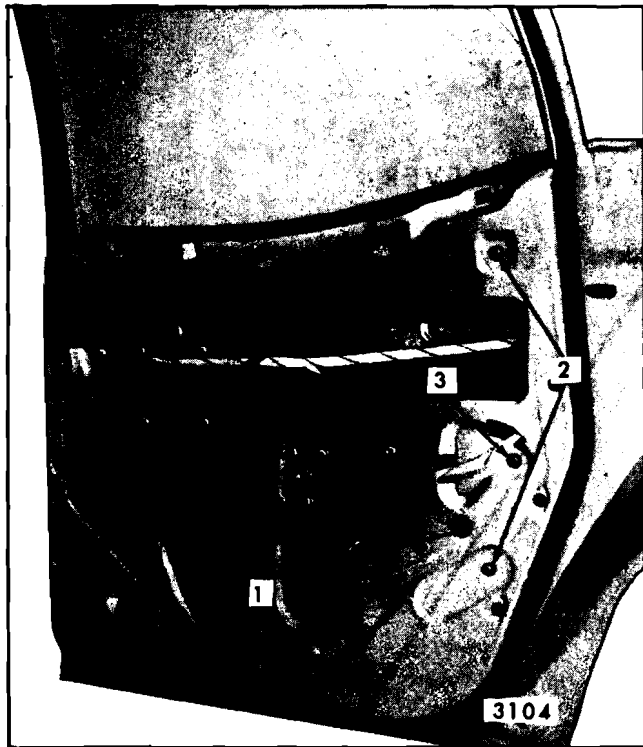

Fig. 6-117—Rear Door Window Removal and Adjustments - "A" Closed Styles
2. With window in a three-quarter lowered position, remove window lower sash channel cam attaching screws (“1”, Figure 6-117).
3. Loosen rear glass run channel upper and lower attaching screws (“2”, Figure 6-117).
Adjustments have been provided to relieve a binding door glass due to misalignment of the glass run channel (“2”, Figure 6-117). In addition, the door window inner panel cam (“3”, Figure 6-117) is adjustable which can correct a rotated (cocked) front door window.